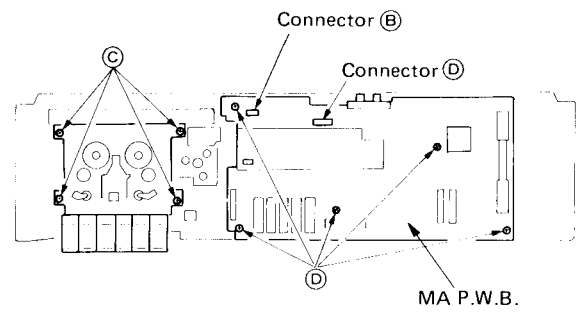

Fig. 6
5. Cassette Chassis (Fig. 6)
6. MA P.W.B. (Fig. 6)